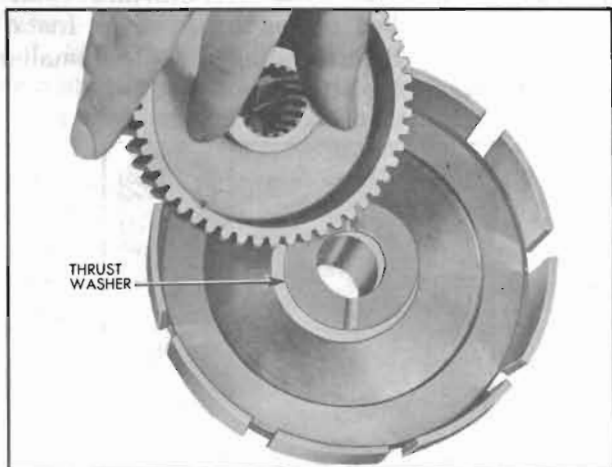

Figure 5-76—Installing Thrust Washer and Clutch Hub in Reaction Gear
3. Place reaction gear on bench with flange upward, then install clutch hub thrust washer and clutch hub over the hub of reaction gear, with open end of clutch hub facing up. See figure 5-76.